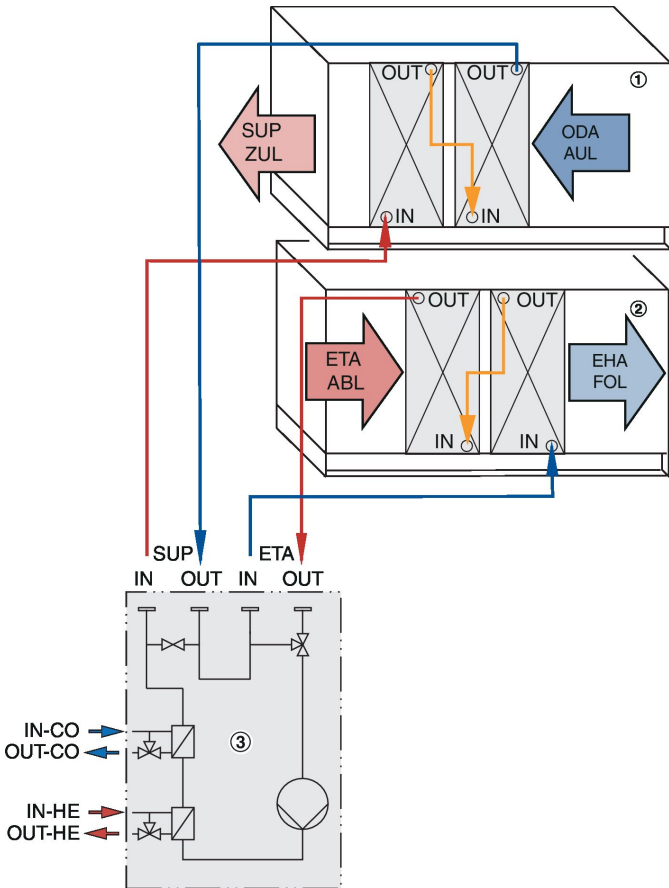

Fig. 36: Hydraulic system connection (example)
- ① Supply air unit
- ② Extract air unit
- ③ hydraulic unit
3. ▶ Connect the heat exchanger with the hydraulic unit ( Fig. 36 ).
4. ▶ Run-around coil systems with external feeding: Make the required connections ( Fig. 36 ).